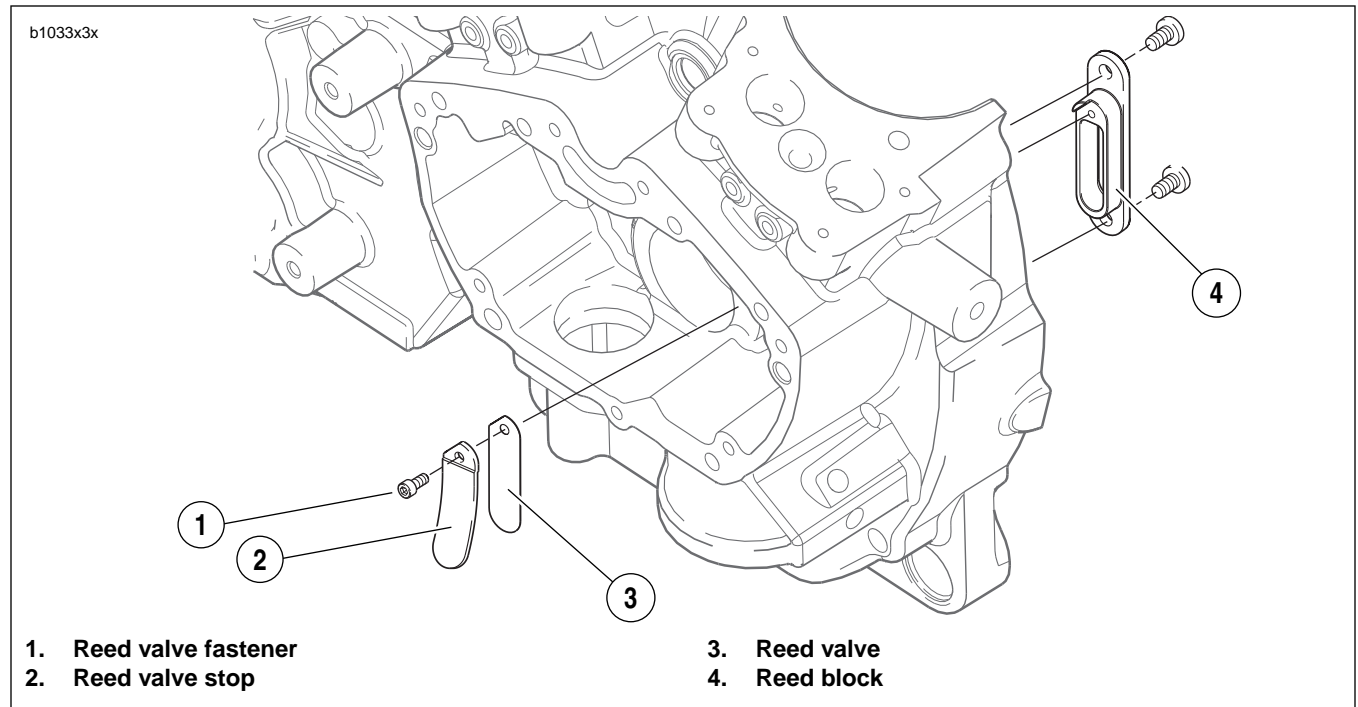
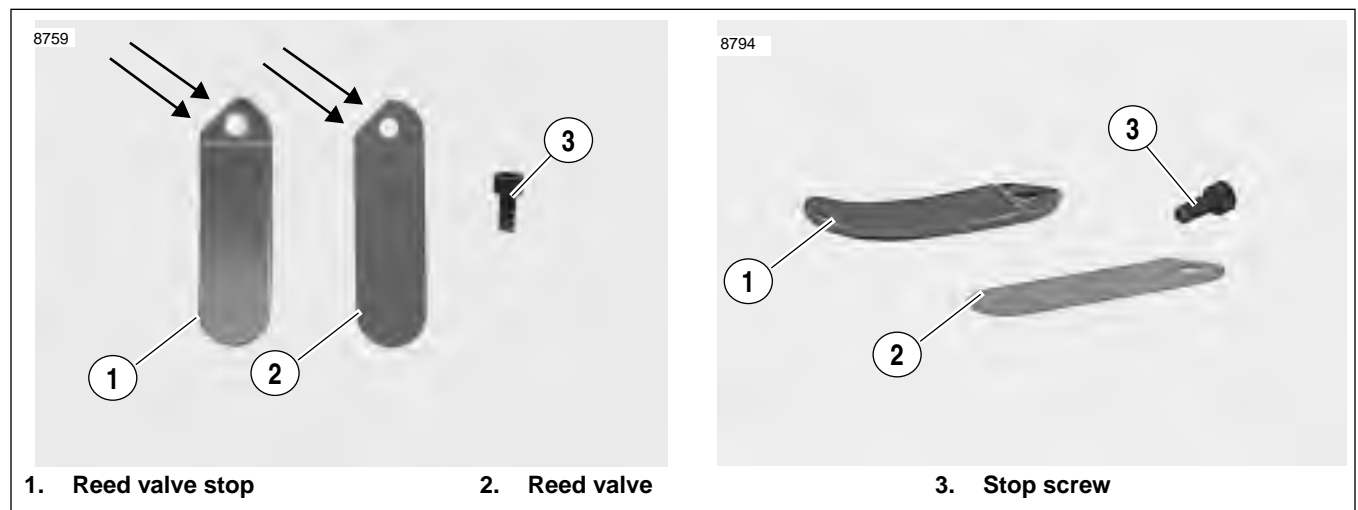

Figure 3-118. Reed Valve Assembly
Figure 3-119. Reed Valve Stop and Reed Valve
- See Figure 3-118. The reed valve (3) opens on the downstroke to relieve crankcase pressure and closes on the upstroke to prevent vapors returning to the crankcase. The curved reed valve stop (2) limits the movement of the reed valve. See 3.13 CRANKCASE BREATHING SYSTEM.
1. Remove the fastener (1), the reed valve stop (2) and the reed valve (3).
2. See Figure 3-119. To replace the assembly, align the edges of the reed valve (3) and the reed valve stop (2) to prevent premature failure of the reed valve.
See Figure 3-118. It is not necessary to replace the reed block (4) along with the reed valve. The block can only be replaced after separating the crankcase halves.